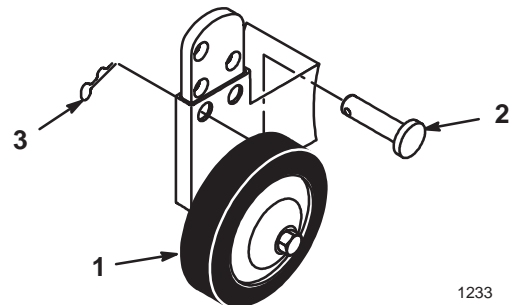

Figure 7
- A. Remove the hairpin cotter and pin to change the hole location (Fig. 7).
- B. Select a hole position so that the gage wheel is 3/8 in. (10 mm) off of the ground for the height-of-cut to be used (Fig. 7).